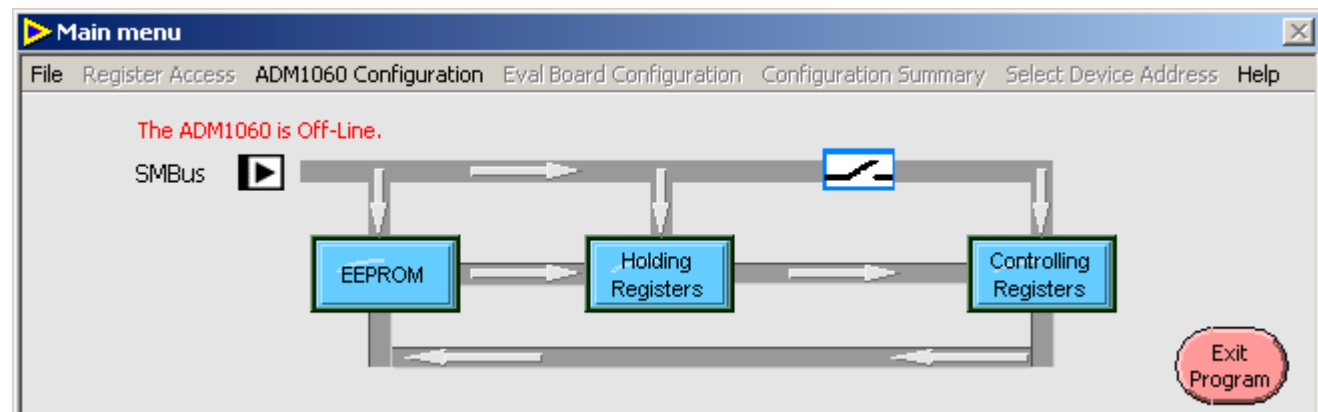

Figure 25. Floating Menu Bar (Off-line Mode)
3. **Off-Line Mode (Figure 25):** Only the File and ADM1060 Configuration Menus are available. Files saved in Off-line mode may be recalled to an active device at a later time.